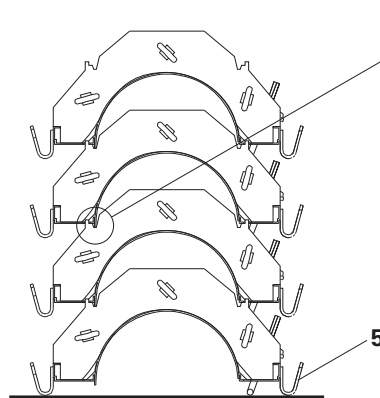

Fig. A1.01
The column panels can be stacked and stored as shown whereby the forming surface is protected from the weather as much as possible. The bottom column panel is supported on the stacking aid (5) during storage. (Fig. A1.01)